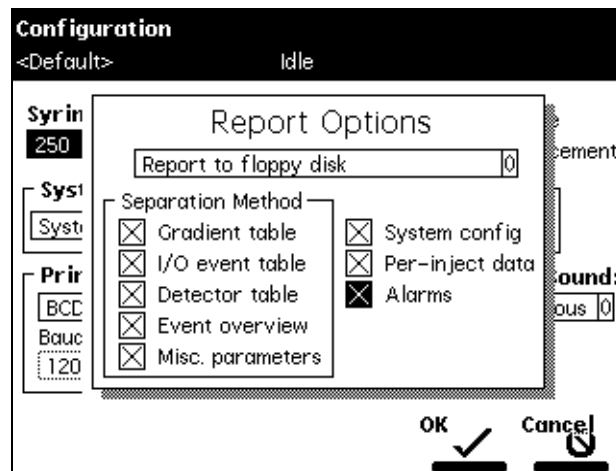

Figure 1-5 Report Options Dialog Box
1. In the Configuration screen, press the **Reports** screen key to display the Report Options dialog box (Figure 1-5).